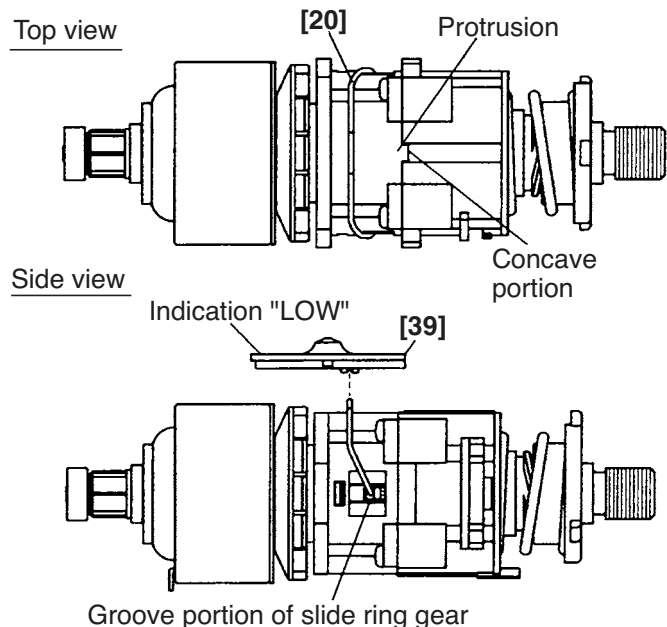

Fig. 11
- ③ Mount the Front Case [8] to the Rear Case [18] so that the concave portion of the Front Case [8] aligns with the protrusion of the Rear Case [18] (see Fig. 11).
(b) Mounting the Shift Arm [20] and the Shift Knob [39] (See Fig. 11.)